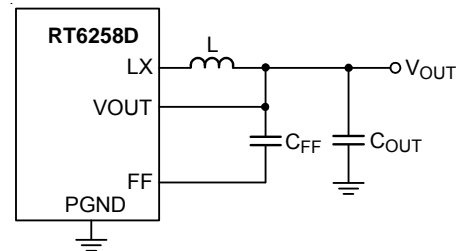
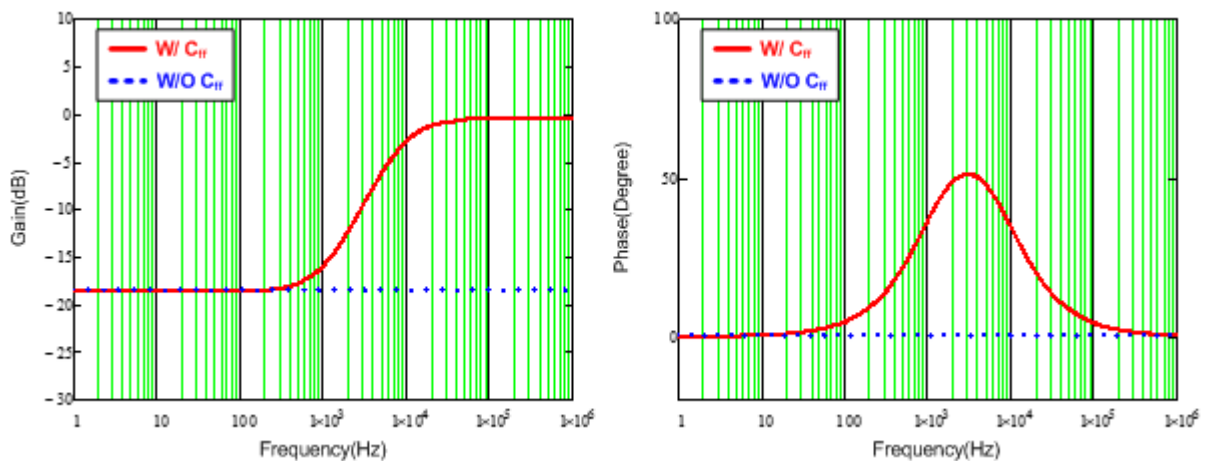

Figure 3. Feedback Loop with Feedforward Capacitor
Figure 4. Bode Plot with Different Feedback Loop Conditions
For saving time to design compensator and reducing the layout area through external components, the components of compensator are integrated in IC. However, this integrated compensator might not suit to every load transient spec. Hence, for the RT6258D to be more adaptable, the feedforward capacitor C_{FF} is used in the feedback loop to improve transient response, as shown in Figure 3. Figure 4 shows the comparison result of bode plot with different feedback loop conditions. Referring to Figure 4, through connecting a C_{FF} in feedback network, the gain and phase are raised in mid-frequency that not only can extend the bandwidth, but boost the phase margin as well. Moreover, there is also a high frequency pole to eliminate high frequency noise. Consequently, those features of feedforward feedback network allow the RT6258D have faster response to handle different load transient.
Observing Figure 4, the maximum phase boost occurs between zero and pole frequencies that is defined as maximum phase boost frequency, as expressed in equation (4). Hence, in order to achieve the maximum phase boost by adding C_{FF} in the RT6258D, the system's original bandwidth has to be located at maximum phase boost frequency.